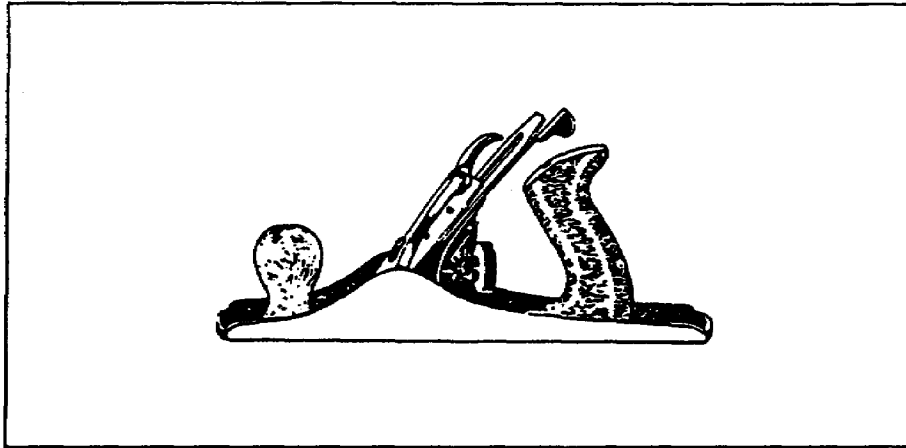

Figure 2-28. Jointer plane
(4) Jointer Plane. This plane is the largest of the plane family (Figure 2-28). It varies in length from 20 to 24 inches. The great length of this plane makes it possible to smooth a large surface or to make the edge of a board true so that two such surfaced areas will fit closely together.